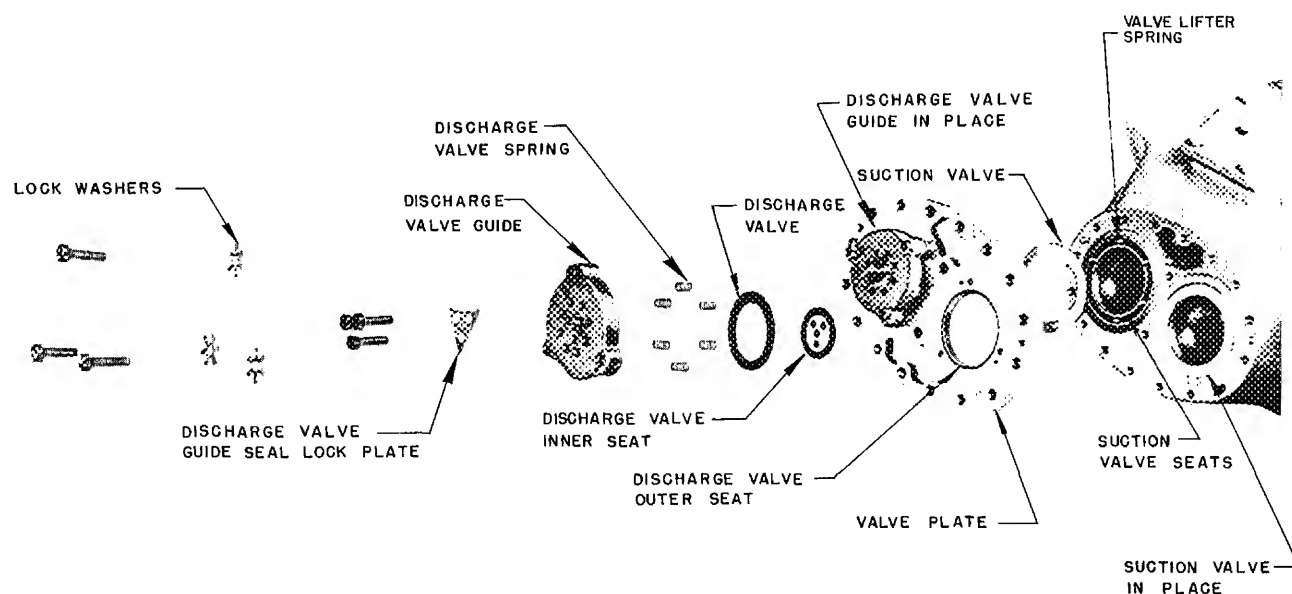

FIG. 18 - SUCTION AND DISCHARGE VALVE ASSEMBLY
1. Loosen the cap screws holding the inner discharge valve seat to the valve guide. (See Fig. 18.)